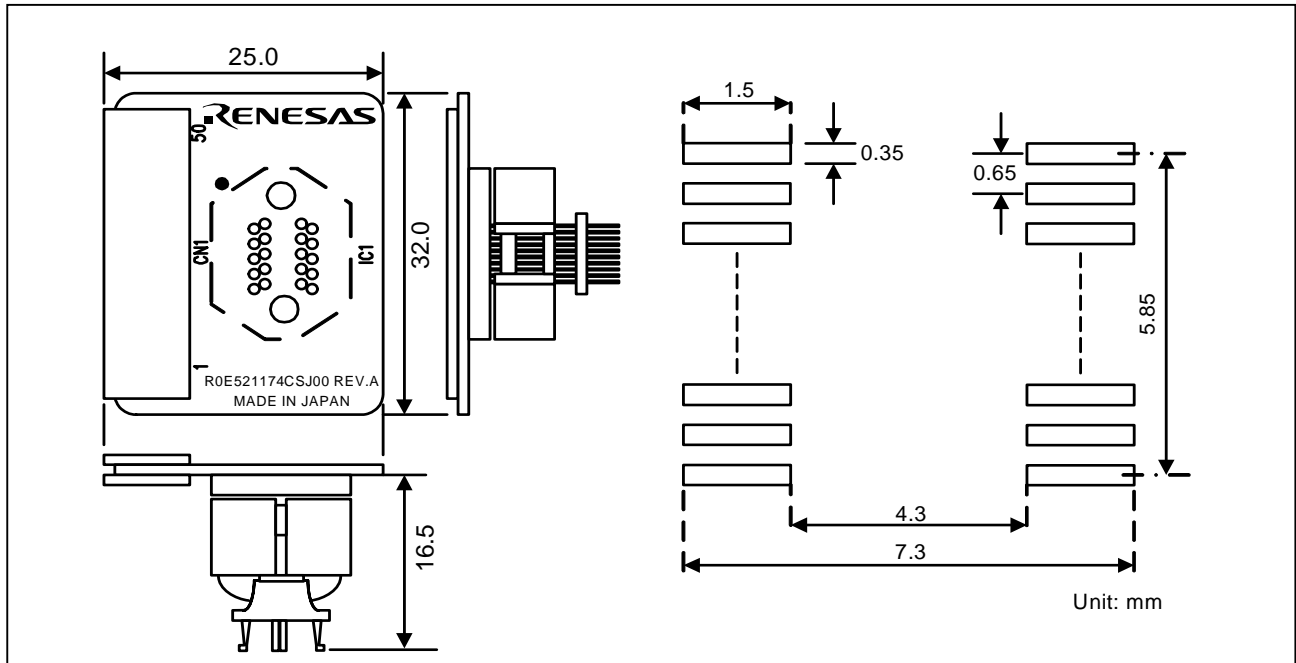

Figure 4 External dimensions and a sample foot pattern of the R0E521174CSJ00
6. External Dimensions and a Sample Foot Pattern (See Figure 4)